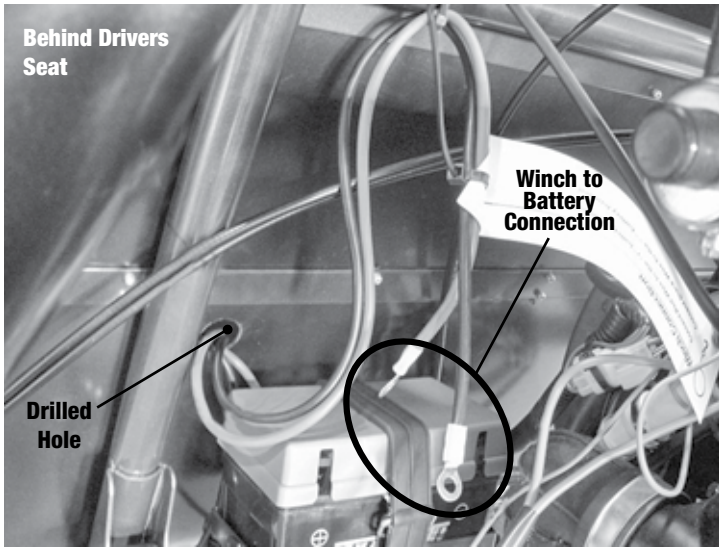

Fig. 3
3 Winch Wiring Preparation (figure 3)
- Feed all wires from inside the seat tub storage area thru the hole in the rear backplash. This will allow wire access to the battery connection and forward feed to the front mounted winch. (Ref Fig 3)